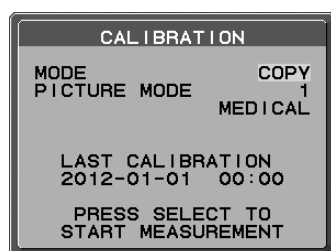

Figure C.3
3. Using “LEFT” or “RIGHT” of Display B, select COPY in the MODE selection (**Figure C.3**).